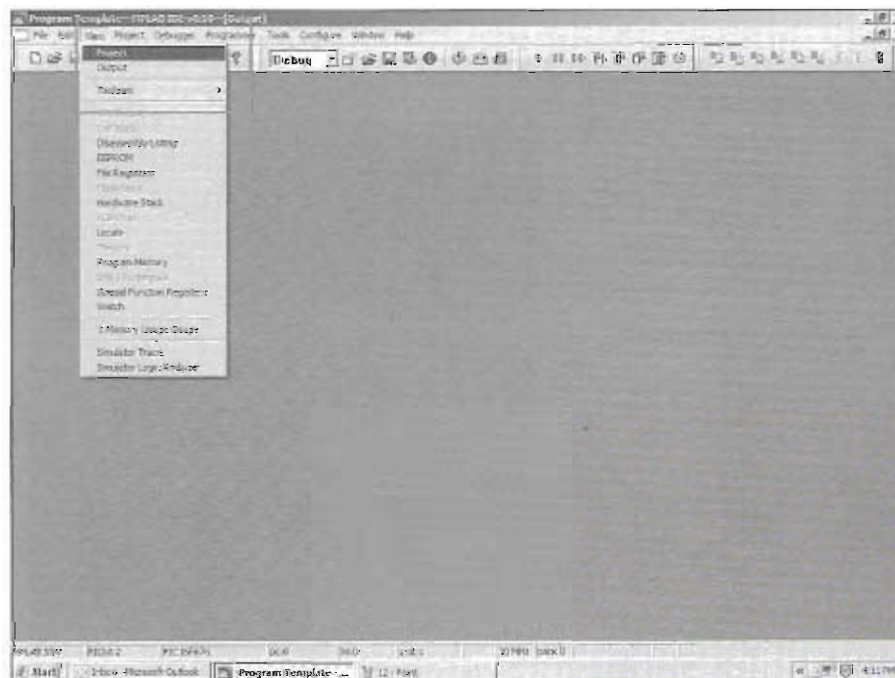

Figure 5-13 — To see the files associated with the project click on VIEW/PROJECT.
Step 9. Click on **VIEW/PROJECT** on the menu bar (Figure 5-13). This will allow you to see the files associated